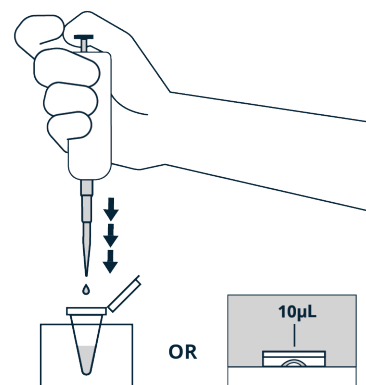

Figure 5. Transfer the collected material for later use.
9. Transfer the collected material to a capped tube. Store for later use according to lab practice (Figure 5).